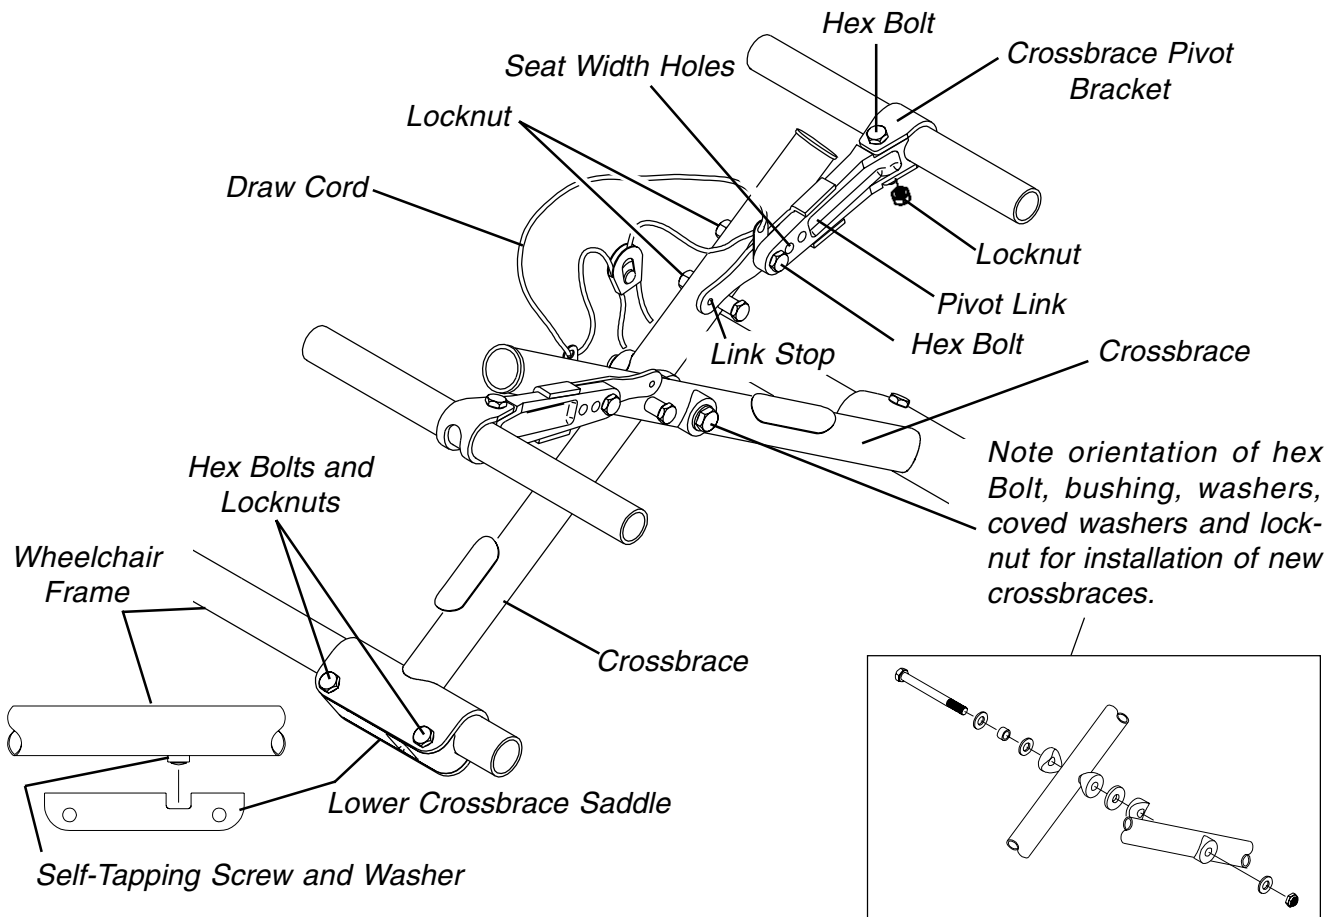

FIGURE 5 - CHANGING SEAT WIDTH - FOLDING FRAMES WITHOUT SEAT RAILS
Folding Frames Without Seat Rails (FIGURE 5)
5. Assemble the two (2) new crossbraces together. Refer to **FIGURE 5** for hardware orientation.
NOTE: Position crossbrace saddle on wheelchair frame using the self tapping screw and washer on the underside of wheelchair frame as reference. Refer to FIGURE 5.